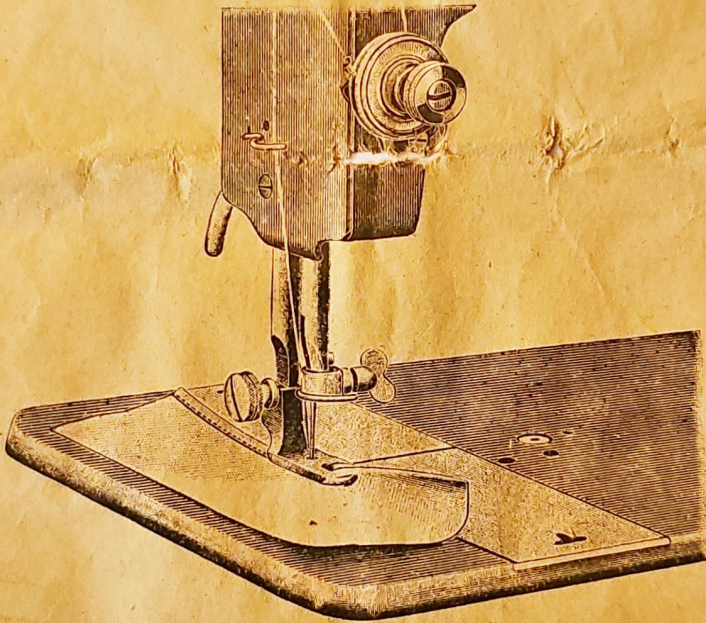

Fig. 15
4. The Narrow Seam-feller foot (Fig. 15).
5. The Broad Seam-feller foot (Fig. 15).
The hemmer figure 15 is attached in place of the ordinary presser foot on the presser-bar. For starting seam turn down the edge of the material and draw it according to the width of hem required, through the hemmer under the needle allowing sufficient material for the hem to be turned down double. Guide the folded seam by means of the thread with one hand and the